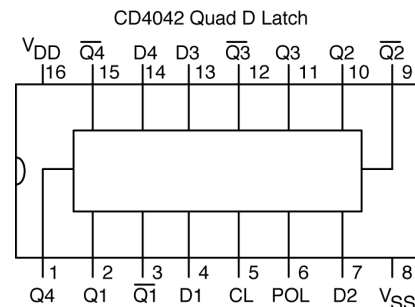

Figure C-7. CD4042 quad D latch IC diagram
The quad D latch, shown in Figure C-7, is what you use when you need to hold on to a 4-bit value. The 4 bits of data are presented to the chip's four data input lines (D1 thru D4). If the Polarity pin (POL) is held at logic 0, the data on the Data inputs is transferred to the Q and NOT-Q outputs when the Clock input (CL) is at a low level. When the Clock input returns high, the data is latched into the Q and NOT-Q outputs until the clock goes low again. If the Polarity input is held at logic 1, then the data is transferred from D to Q and NOT-Q when the Clock input is high. When the Clock input returns low, the data is latched into the Q and NOT-Q outputs until the clock goes high again. As expected, if a logic 1 is present on a Data line when the clock permits data to be transferred and latched, the Q output for that latch will be at logic 1, and its companion NOT-Q will be at logic 0.